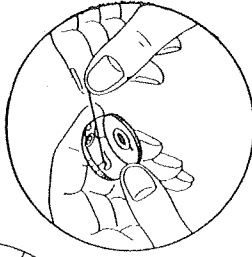

Fig. 5-3
- 4) Then pull the thread to the left, under the tension spring and into the delivery eye. (Fig. 5-3)